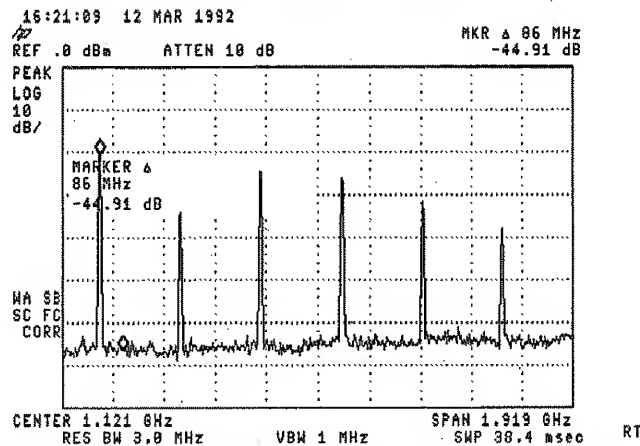

Figure 3-14. Using the Marker to Peak/Peak Function
5. The **MARKER** → **PK-PK** softkey can be used to find and display the frequency and amplitude difference between the highest- and lowest-amplitude signals. To use this automatic function, press **(MKR→)**, **More 1 of 2**, **MARKER** → **PK-PK**. See Figure 3-14.